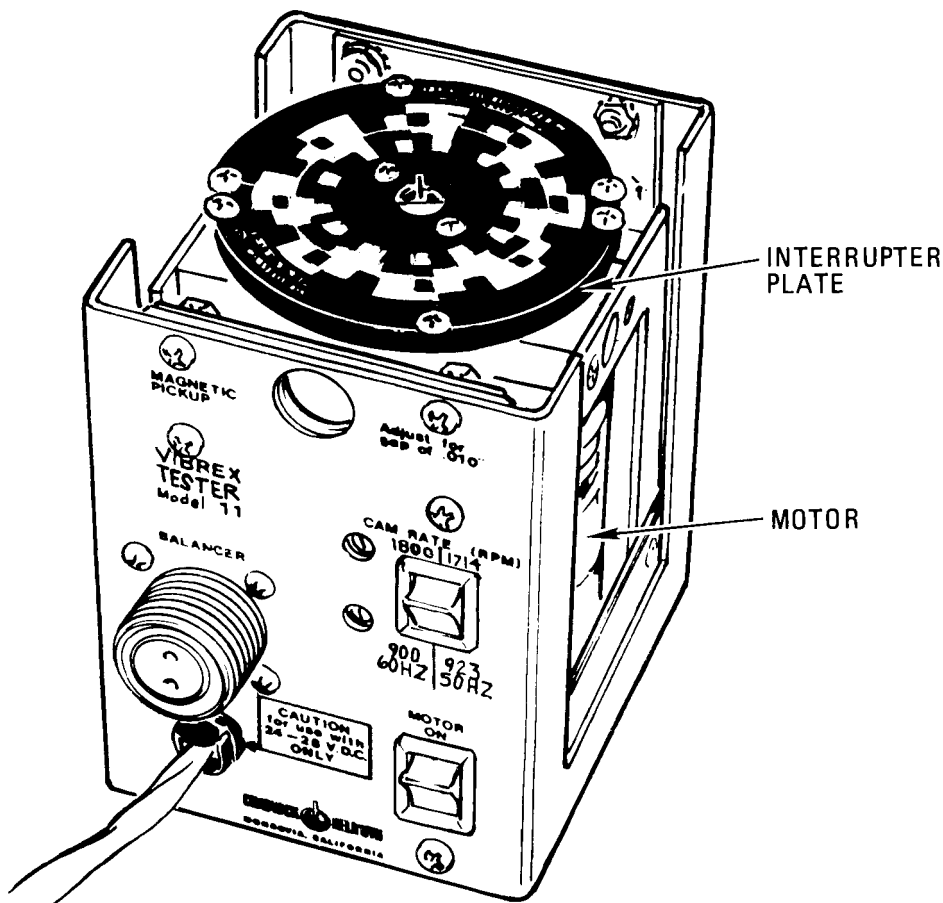

Figure 1-4. VIBREX Tester 11
c. VIBREX Tester 11. The VIBREX Tester (fig. 1-4) (hereafter referred to as Tester) provides accurate calibration and complete functional check of the VIBREX. The Tester shakes (vibrates) the Accelerometer to measure vibration amplitude in inches-per-second (IPS) and rate (RPM) functions of the Balancer. Phase or clock angle functions of the Phazor section are verified by a rotating interrupter plate and the Magnetic Pickup to provide double and single interrupter logic signals. The RPM dial of the Strobex is accurately checked against the known rotor speed of the Tester motor.